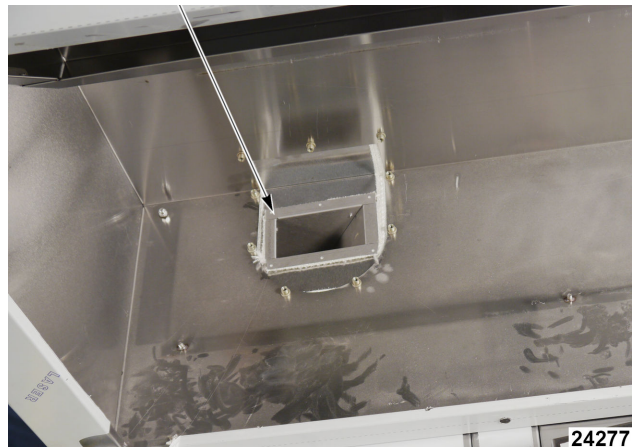
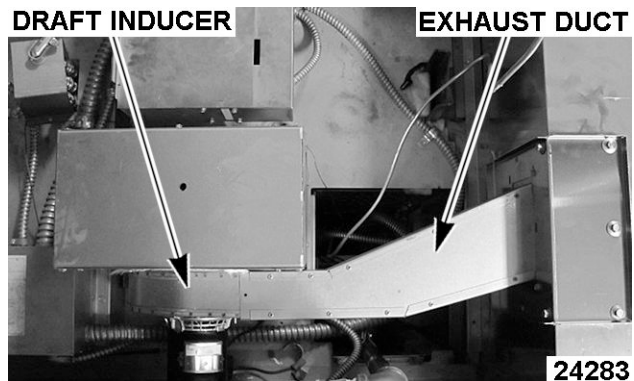

Fig. 123
Fig. 124
2. Insert exhaust duct through hood (Fig. 123) and connect to draft inducer (Fig. 124).